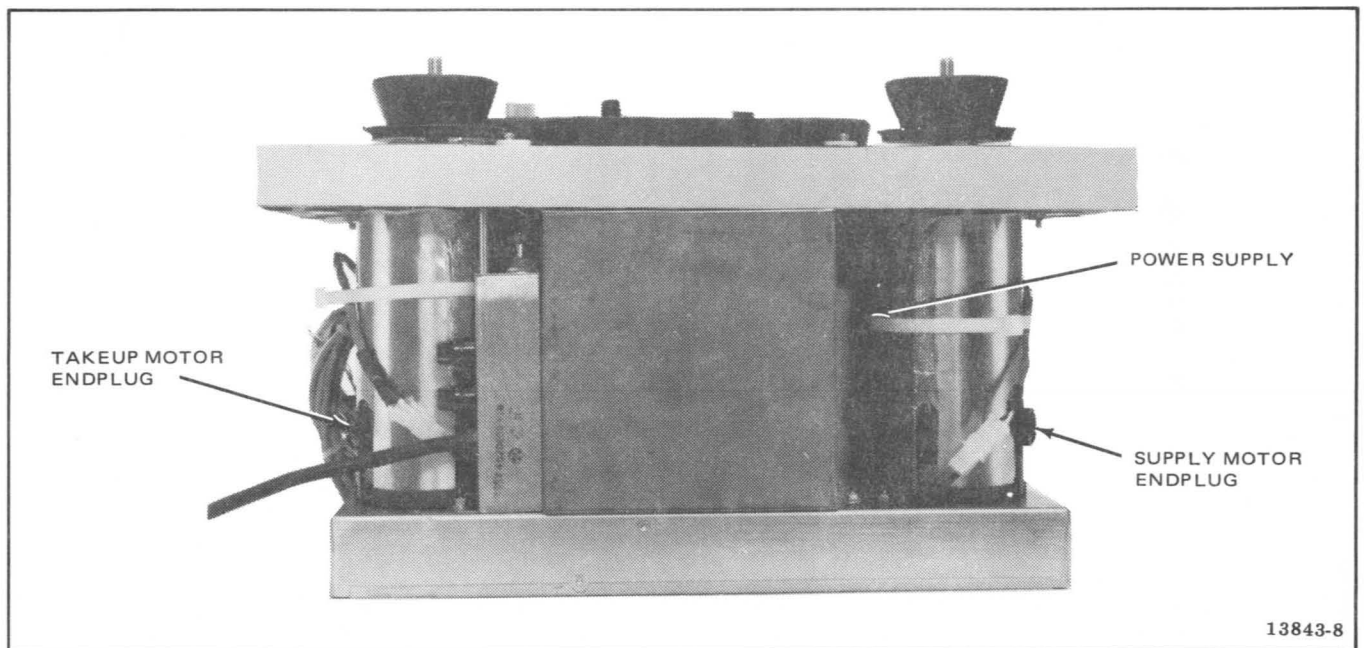

Figure 5-50. Reel Drive Motor Brush Replacement, Rear Side View of Transport
2. To remove a brush, use a large bladed screwdriver and unscrew the motor endplug (Figure 5-50). The brush has a spring attached which maintains pressure against the motor commutator. Slide the old brush out of the retaining hole in the motor.